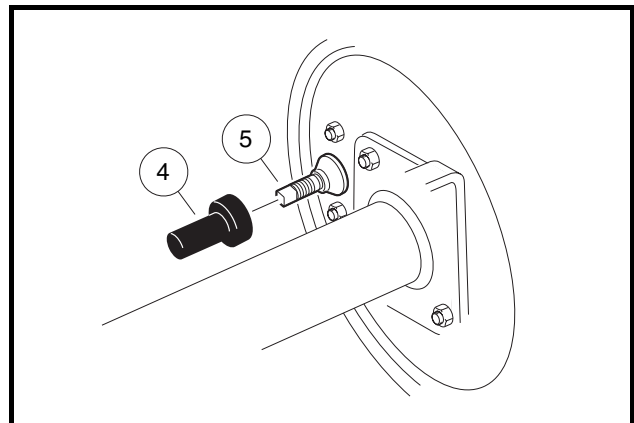

**Figure 6-28 Front Equalizer Adjustment**
2. **Four-wheel brake vehicles only:** Loosen the front brake equalizer rod (**Figure 6-28, Page 6-13**).
- 2.1. **Four-wheel brake vehicles only:** Tighten the nylon lock nut (6) on the front equalizer rod (2) to 35 in-lb (4 N·m) (**Figure 6-28, Page 6-13**).
- 2.4. Hold the lock nut (6) on the front equalizer rod (2) in place with a wrench and tighten the jam nut (1) to 13 ft-lb (17.6 N·m) (**Figure 6-28, Page 6-13**).
3. Loosen the equalizer retaining nuts (1 and 6) on the front equalizer rod (2) to slightly loosen the brake cable (**Figure 6-28, Page 6-13**).